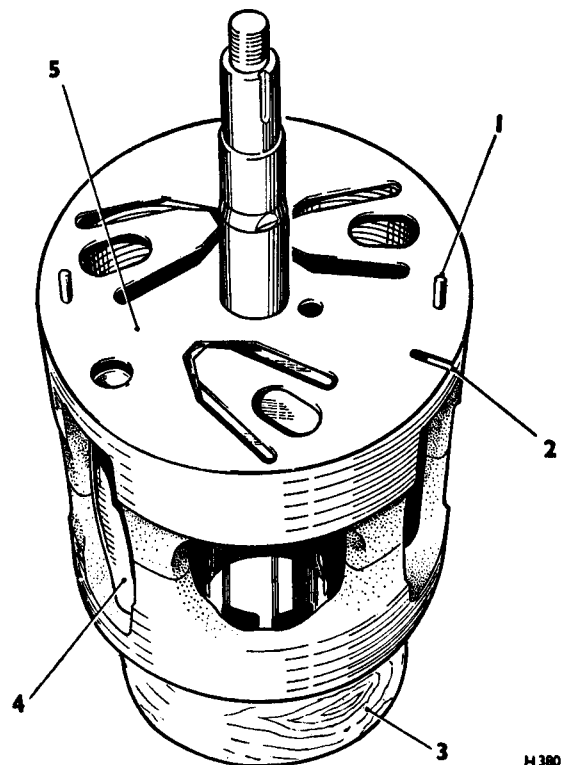

FIG. C23 FRONT SUCTION REED PLATE
4. Fit the front suction reed plate and discharge valve plate assembly aligning the holes with the dowel pins and the correct openings (see Figs. C23 and C24).